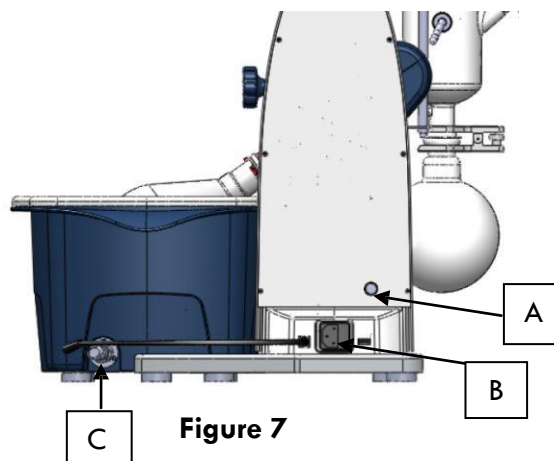

Figure 7
-To install the support rod (J), it is necessary to use the locking key (A) removed in chapter "5.1.2 Working position and electrical connections" (Figure 7)
-Position the support rod between the refrigerator and the main body; use the lock key (A) and the screw at the bottom of the motor where there is a slot for that purpose. Once the position is fixed, use the tape provided with all the equipment to surround the condenser and join it with the locking device